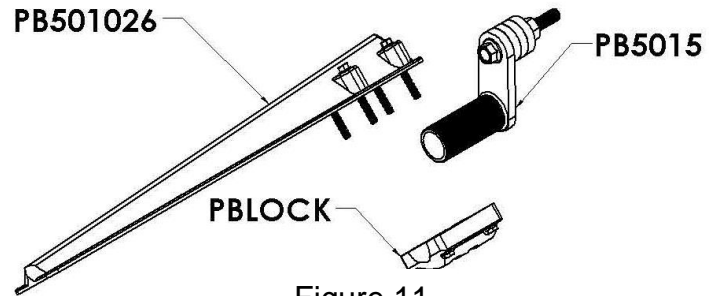

Figure 11
- A. Use four 5/16" x 3" bolts to attach the bracket (part number PB501026) and the backing block (part number PBLOCK) to the steel swivel (part number PB5015). See Figure 11. **Make sure the steel swivel is fully inserted into the bracket.**